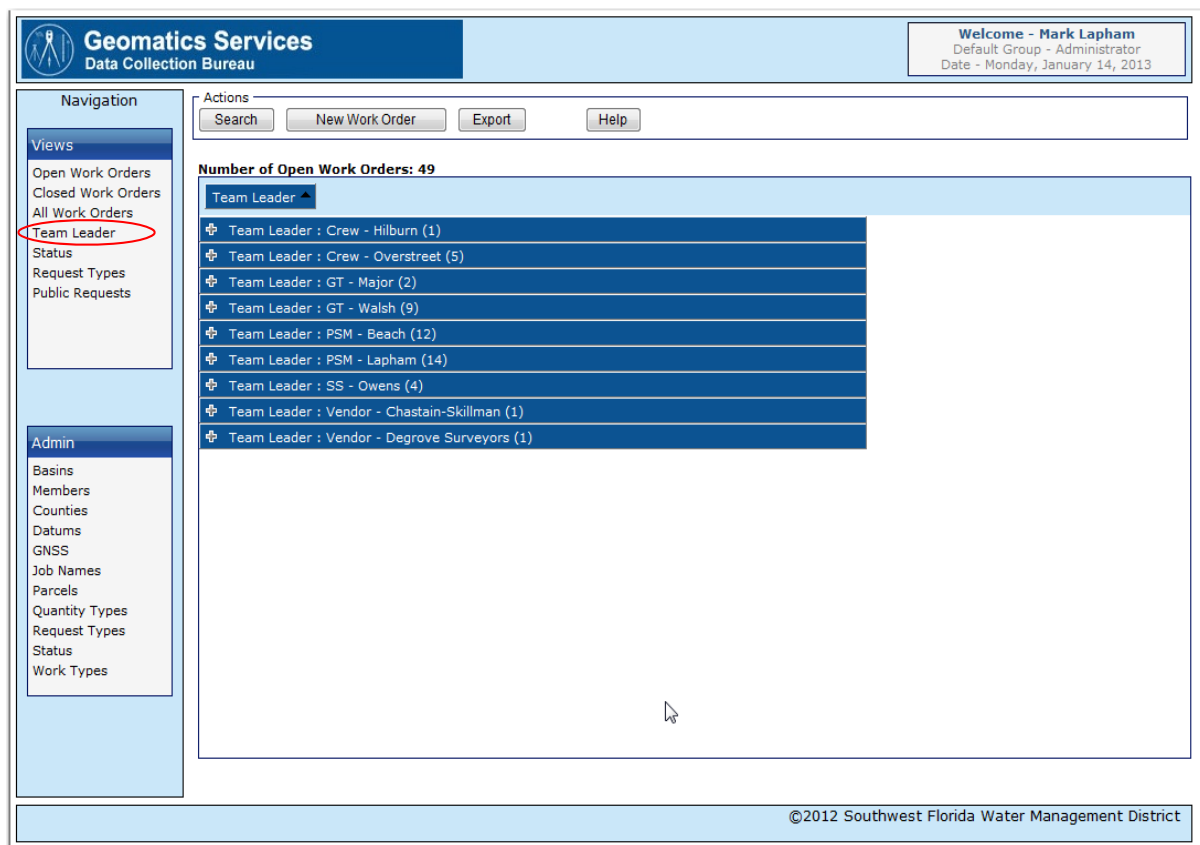

Figure 6
By selecting “**Team Leader**” you will see a list of survey group staff members. See Figure 6.
You can see in Figure 6 below a list of team leaders, i.e. “Team Leader : GT – Doe (12)”. The first item after the colon is the abbreviated job title of the team leader followed by the dash and last name of the team leader. The number in parenthesis (#) is the current number of work orders the team member has been assigned.